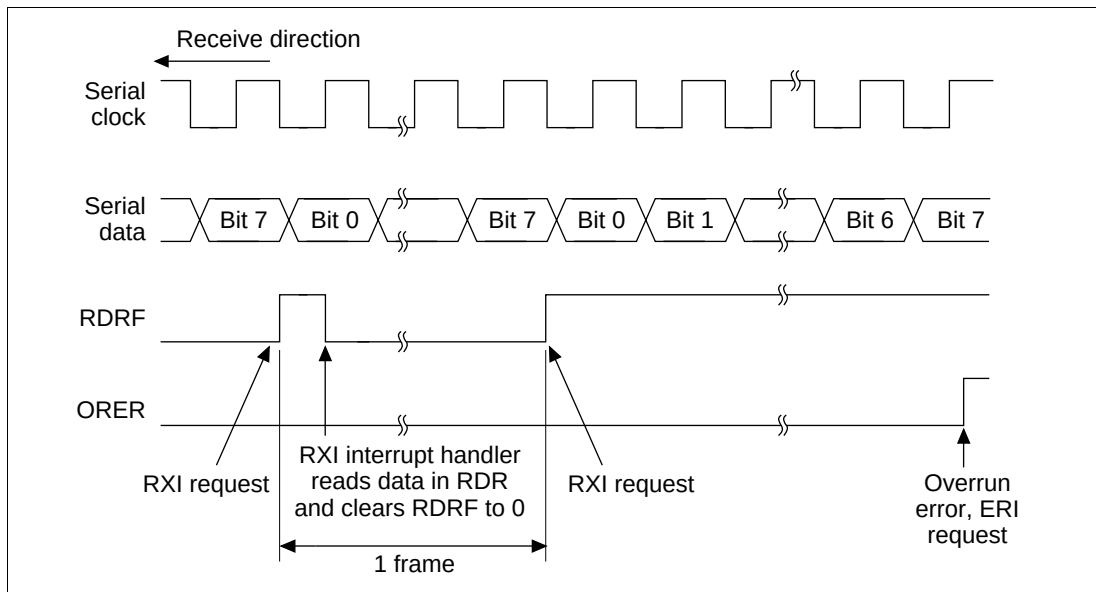

**Figure 13.19 Example of SCI Receive Operation**
**Receiving Serial Data (Synchronous Mode):** Figure 13.18 shows a sample flowchart for receiving serial data. When switching from asynchronous mode to synchronous mode, make sure that ORER, PER, and FER are cleared to 0. If PER or FER is set to 1, the RDRF bit will not be set and both transmitting and receiving will be disabled. Figure 13.19 shows an example of SCI receive operation.